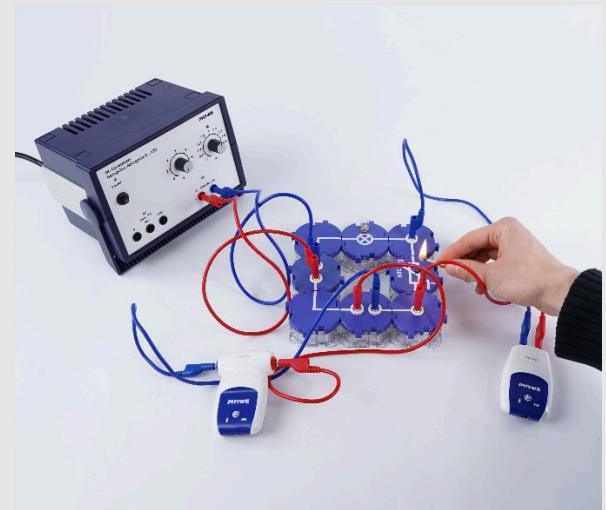

Fig. 5
- Heat the NTC resistor with a match flame as shown in Fig. 5.